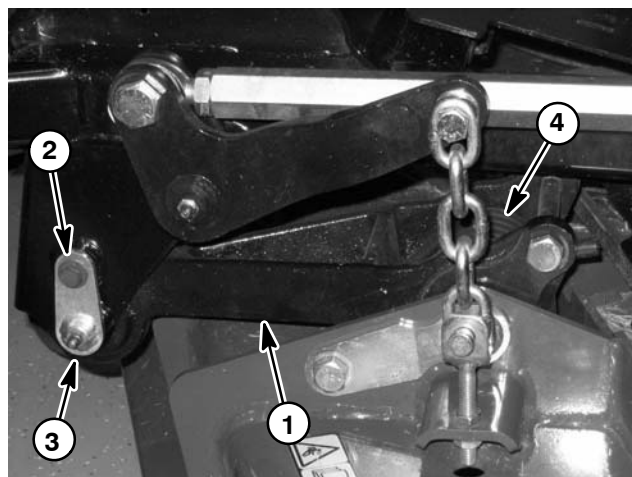

Figure 1
2. Disconnect pull link from each side of machine (Fig. 1):
5. Align pull link to carrier frame and attach link with retainer pin. Secure retainer pin to frame with shoulder screw (Fig. 1).